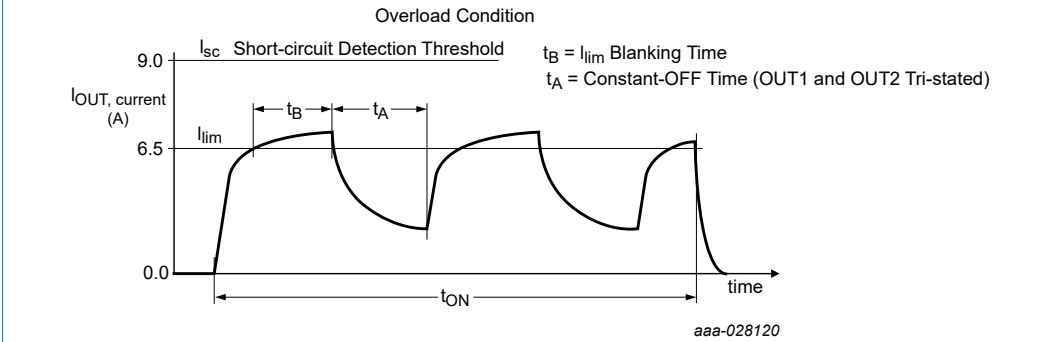
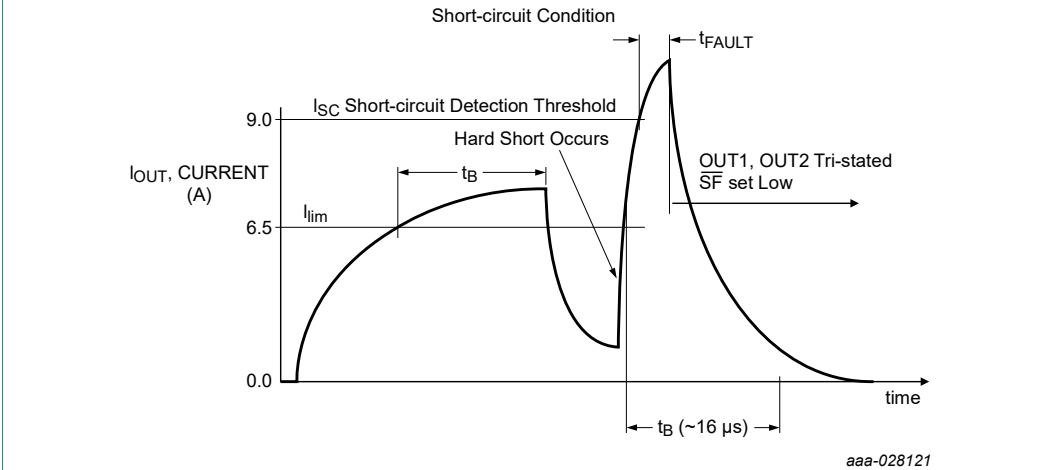
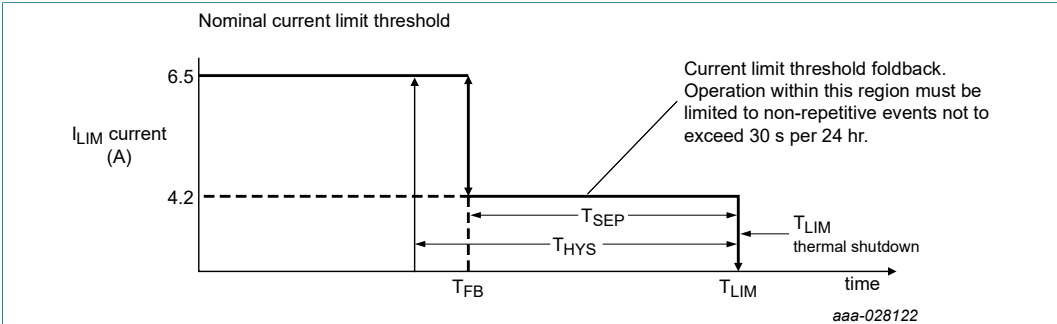

Figure 8. Current limit blanking time and constant-off time
Figure 9. Short-circuit detection turn-off time t_{FAULT}
Figure 10. Output current limiting foldback region
- [9] Load currents ramping up to the current regulation threshold become limited at the I_{LIM} value (see Figure 8). The short-circuit currents possess a di/dt that ramps up to the I_{SCH} or I_{SCL} threshold during the I_{LIM} blanking time, registering as a short-circuit event detection and causing the shutdown circuitry to force the output into an immediate 3-state latch-off (see Figure 9). Operation in current limit mode may cause junction temperatures to rise. Junction temperatures above $\sim 160^\circ\text{C}$ causes the output current limit threshold to "foldback", or decrease, until $\sim 175^\circ\text{C}$ is reached, after which the t_{LIM} thermal latch-off occurs. Permissible operation within this foldback region is limited to non-repetitive transient events of duration not to exceed 30 seconds (see Figure 10).